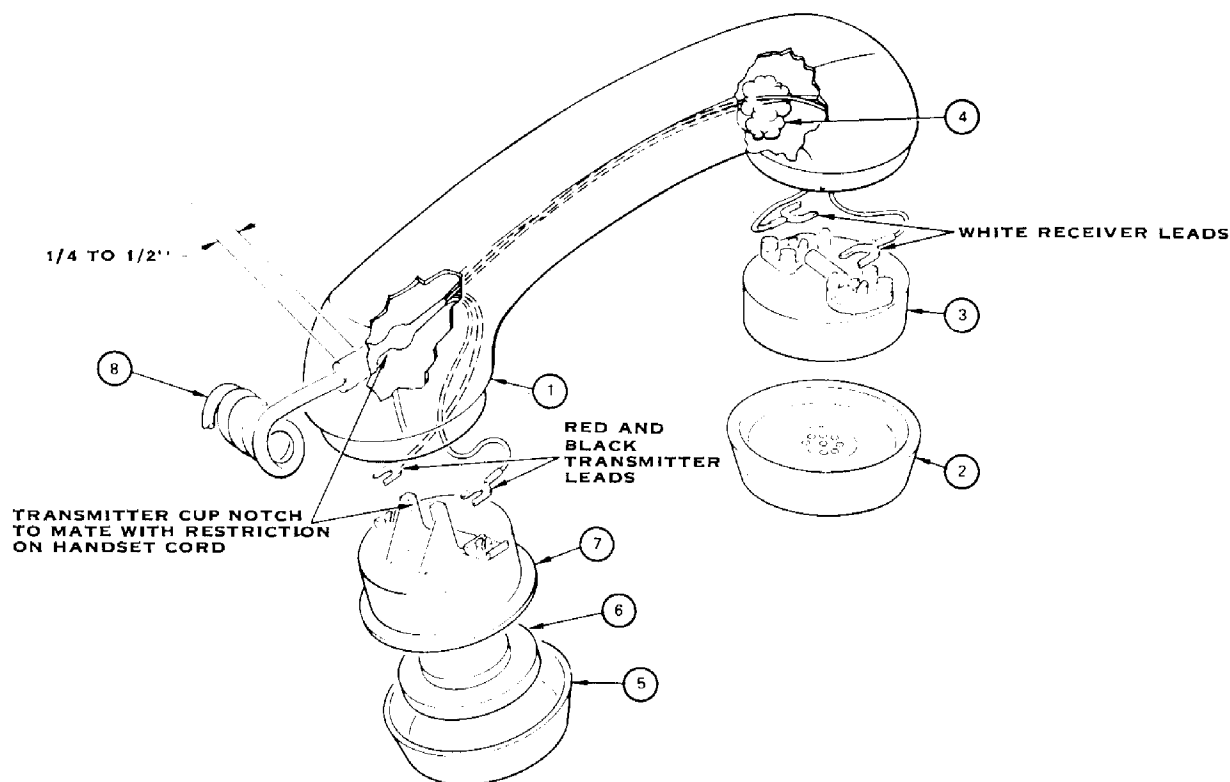

Figure 11. Mickey Mouse Telephone Handset Assembly.
8.01 The plastic components of the Mickey Mouse telephone, such as the figure back, figure front, figure shoes, etc, are the property of and are maintained by the customer. The telephone components, such as the transmission unit, ringer, hookswitch, etc, are the property of and maintained by the telephone company. In the disassembly process, it will be necessary to remove some of the customer-maintained components to access the telephone-company-maintained components. Refer to Tables 11, 12 and 13, and Figures 11, 12, and 13. The figures show the various components in disassembly order; the various components are numbered. The tables complement the figures and give the order numbers for the various components. The component numbers in the figures correspond to the item numbers in the tables.
8.03 Replace the handset cord as follows (refer to Tables 11 and 12 and Figures 11 and 12):
- (e) Loosen the screw (4 in Table 12) and free the handset cord (8) from the handset cord clamp (3 in Table 12).